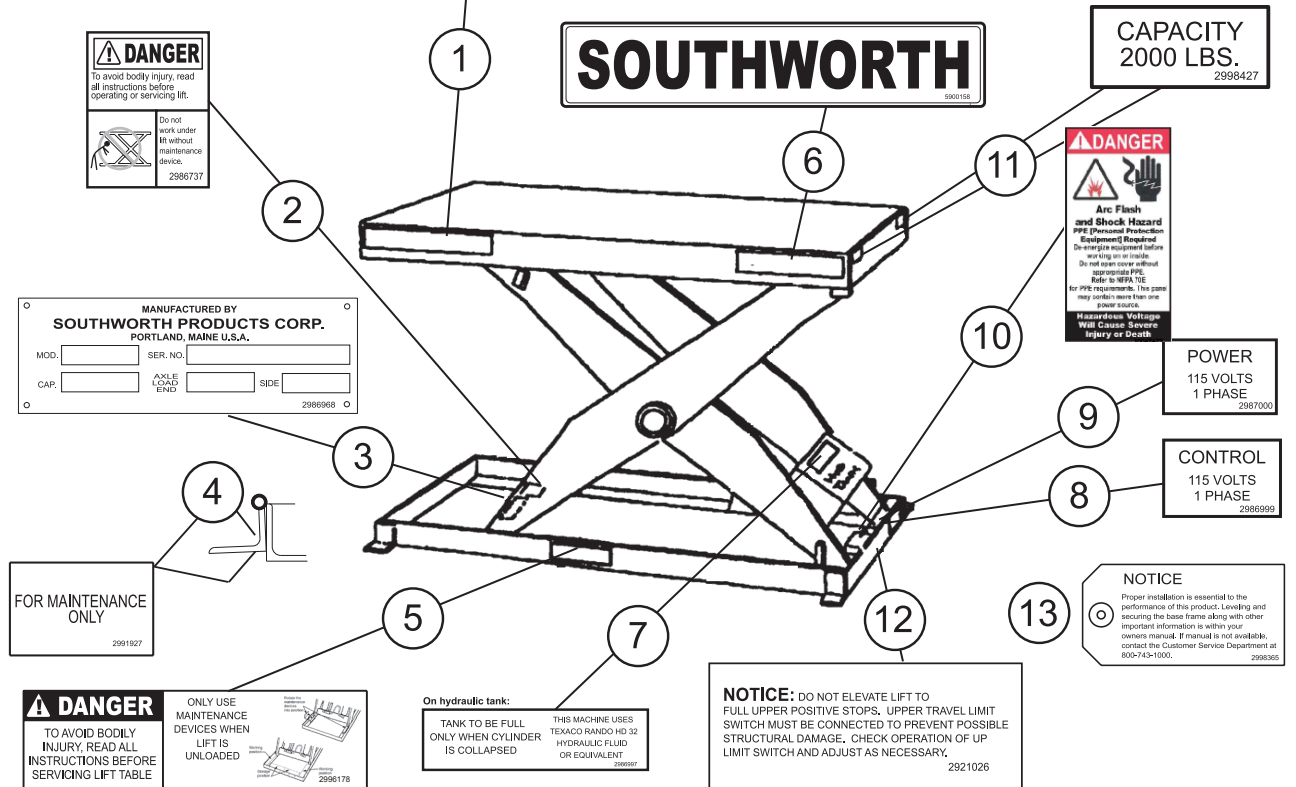

Figure 7 – Labels and Precautionary Markings (straight skirt and bevel toe guard platforms)
The warning labels on the lift are there for your safety. If you find that the labels are worn or missing, or have been painted over, ask Maintenance to replace the labels before you use the lift. The labels are shown in Figures 7 and 8.
- Release of fluids under high pressure can cause personal injury. Before you open any part of the hydraulic system, be sure to release the hydraulic pressure, see page 7, item 5.
- The warning labels on the lift are there for the safety of the operators. See Figures 7 and 8. If the labels are worn or missing, or have been painted over, replace them before releasing the lift for operation.